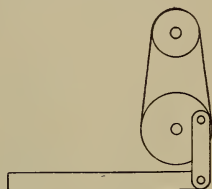

FIGURE 269.—THE PULLEY AS USED IN THE SEWING MACHINE.
**287. Applications of the Pulley.**—A familiar example of the first type of pulley is the sewing machine. (Figure 269.) Here the large wheel is the *driver*, and the small wheel is the